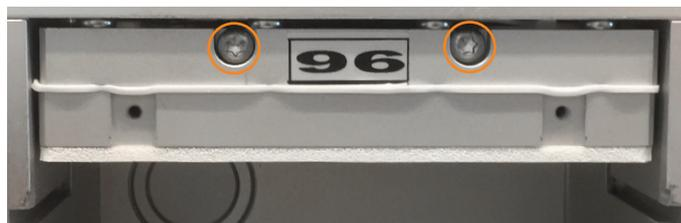

Figure 108. The screws attaching the pressure head to the pressure unit.
- a. Remove the two screws holding the pressure head to the pressure unit; see Figure 108.